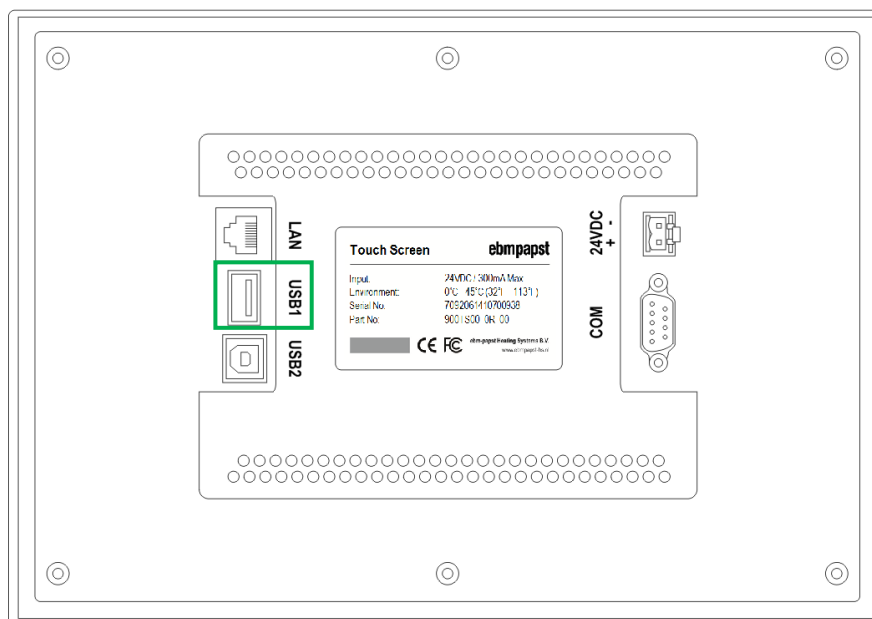

Fig. 1: USB1 port on the backside.
3. Insert the USB stick in the USB1 port on the backside of the touchscreen (marked green in Fig. 1) and power on the touchscreen (if it was not on already).